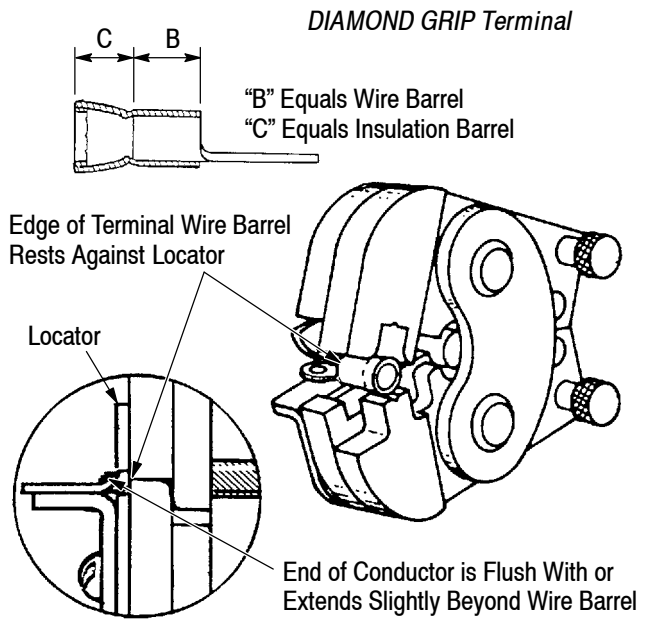
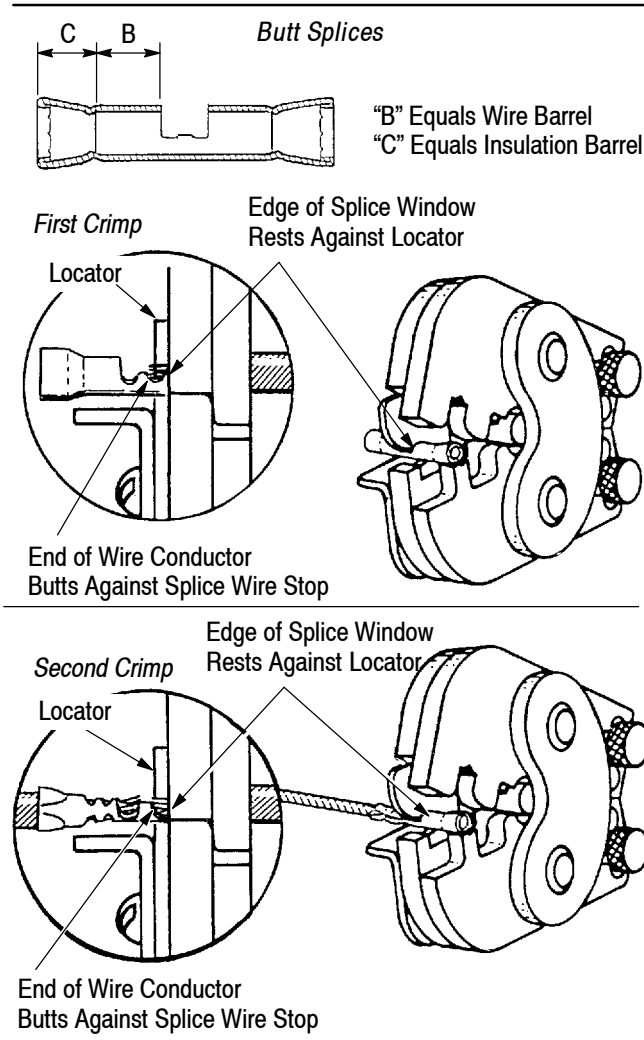

Figure 3
Figure 4
2. Center the terminal or splice wire barrel in the appropriate crimp chamber. See Figure 3
4. Insert stripped wire into terminal until the end of the conductor butts against the locator as shown in Figure 3.
2. Position splice between crimping jaws so that the edge of the splice window rests against the locator. Refer to Figure 4.
4. Insert stripped wire into wire barrel of splice until the end of the conductor is against the splice wire stop. See Figure 4.
1 through 5. If the splice cannot be turned, rotate crimping head. See Figure 4.
2. Place the terminal or splice in crimping jaws, as shown in Figure 3.
3. Insert **unstripped** wire **only** into the **insulation barrel** of the terminal or splice. See Figure 3 or Figure 4.